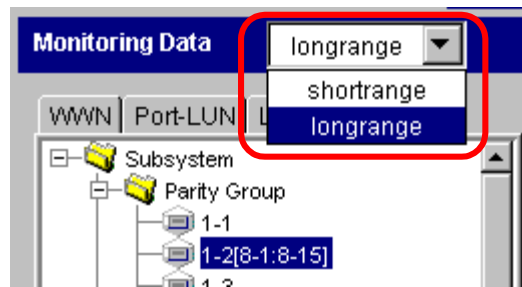

Figure 6.2 Using the Drop-Down List to Select a Storage Period
- In the drop-down list on the right of Monitoring Data, you can select the storing period of statistics from shortrange and longrange (see Figure 6.2).